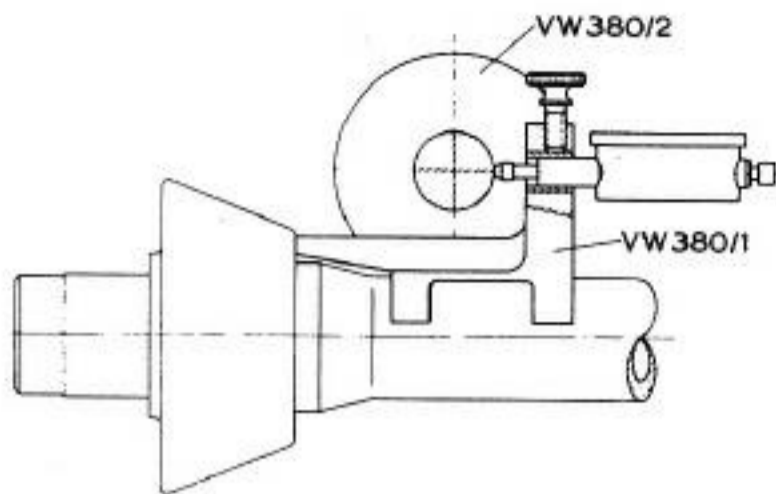

Fig. 11-31. Gauge holder placed against pinion face with dial indicator pin against mandrel.
4. Repeat the measurement between the end face of the pinion and the measuring surface on the mandrel. (Fig. 11-31 is a cross section of the setup.) Remember that the gauge pin is half the diameter of the mandrel shaft (shaded circle) beyond the ring gear centerline. If you have installed the correct  $S_3$  shim, the dial gauge reading should equal the deviation  $r \pm 0.04$  mm (.0015 in.).